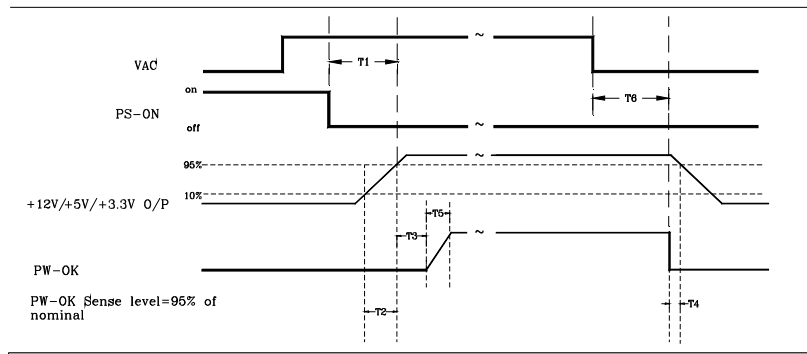

Figure 4. PS-OK Timing Sequence
Figure 4 is a reference for signal timing for main power connector signals and rails.
4.3 Hold up time (T6 of figure 4.)